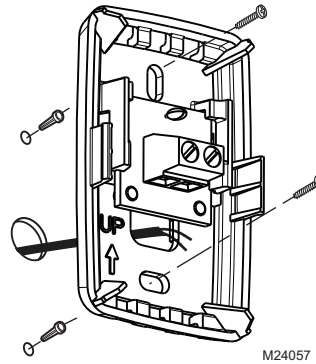

Fig. 72. Mount wallplate to wall.
5. Place wallplate over anchors, insert and tighten mounting screws (see Fig. 72).